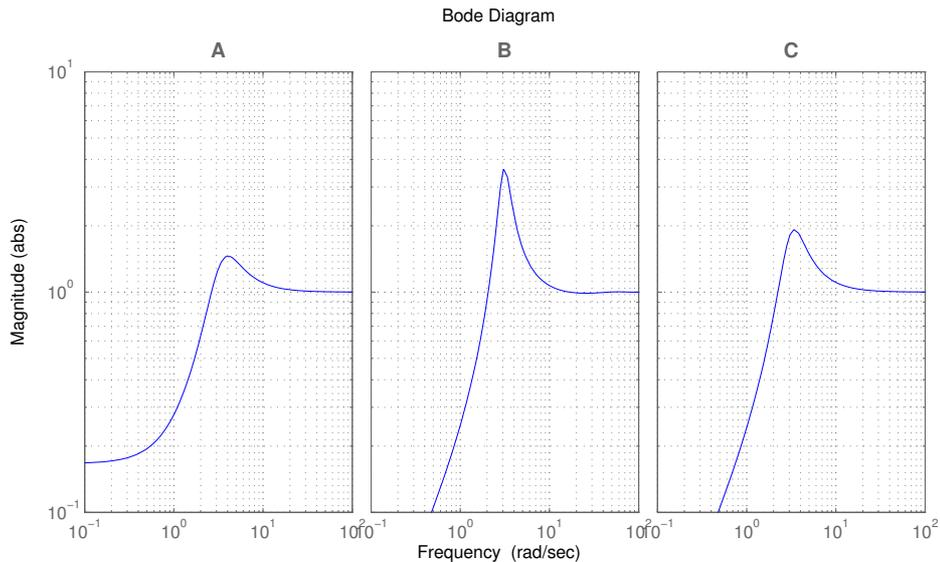

Figure 2.5 Sensitivity functions for Problem 2.5.
- a. Figure 2.5 shows sensitivity functions, corresponding to the three different control designs $C_1 - C_3$. Combine the controllers $C_1 - C_3$ with the sensitivity functions $A - C$. Motivate!